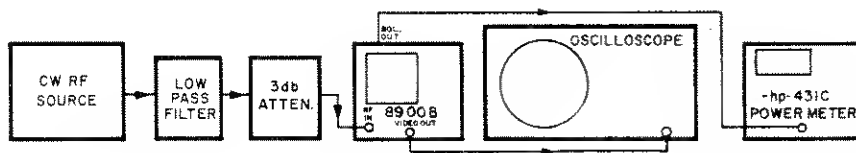

Figure 5-2. Calibration Check
1. Connect equipment as shown in Figure 5-2.
| <ol style="list-style-type: none"> 1. Connect equipment as shown in Figure 5-2. 2. Set 8900B Function Switch: MEAS COARSE and FINE controls: Adjust for 20 mw reading on Peak RF Meter Pulse Generator Pulse Amplitude: 100 volts, negative-going Repetition Rate: 10 kHz Pulse Width: 10 μsec Trigger: Internal RF Source Output Frequency: 900 MHz Oscilloscope Vertical Sensitivity: 50 mv/cm 3. Adjust level of RF source to 20 mw as determined by 8900B measurement. 4. Change 8900B Function Switch to MON/CAL position. 5. Change oscilloscope connection from 8900B VIDEO OUT to MON OUT connector and measure voltage level. The detected pulse level should be greater than 200 mv P-P for 20 mw input. |